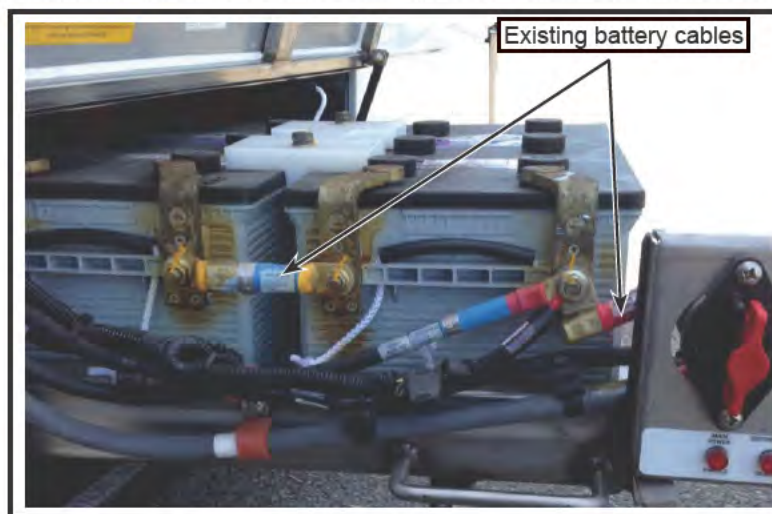

Figure 5 - Removal of Existing Battery Cables
- 1.5. Remove the existing battery cables as shown in Figure 5. Retain the nuts. Discard the cables.